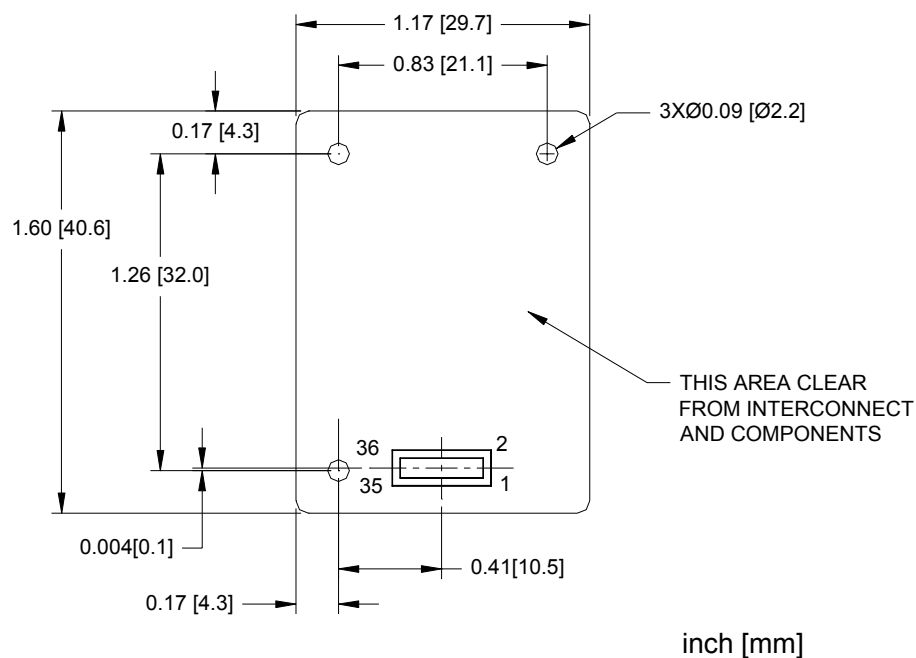

Figure 8. Guidelines for Mounting the Airborne WLN Module
- For mechanical clearance, performance, and emissions reasons, there should be no components placed on the main printed circuit board facing the Module. This region should be clear of components, as indicated by the clear area in Figure 8 on the next page.